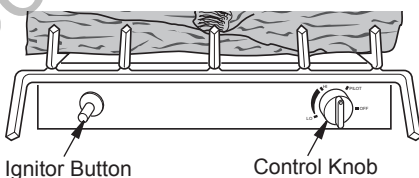

Figure 25 - Control Knob and Ignitor Button Location
- Turn control knob counterclockwise to the PILOT position. Press in control knob for five (5) seconds (see Figure 25).